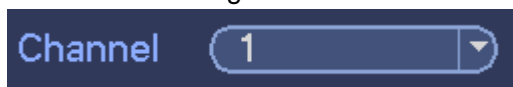

Figure 3-60
- Select a channel you want to set. See Figure 3-60.